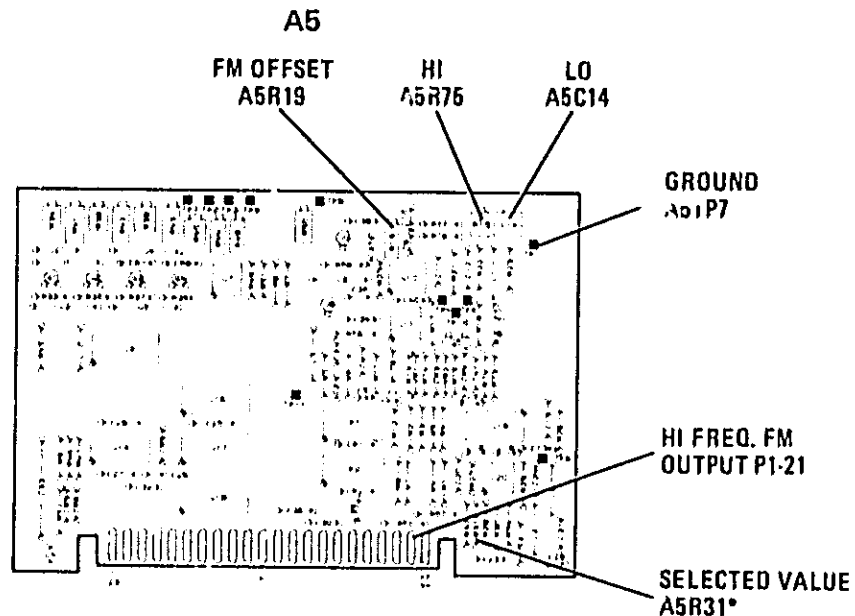

Figure 5-30. A5 FM Driver Adjustment Location
3. Connect DVM between A5 board connector pin 21 and A3TP7 (ground). (See Figure 5-30.) Adjust A5R19 "FM OFFSET" control for zero Vdc ± 1 mVdc.
8. Manually sweep function generator frequency from DC to 100 kHz. Select resistor A5R31 (Figure 5-30) so amplitude at 100 Hz and at 100 kHz are the same ±0.2 cm on CRT. Refer to Table 5-2 for the allowable range of values for A5R31.
9. Manually sweep function generator frequency from DC to 10 MHz. Adjust A5C14 "LO" and A5R75 "HI" controls several times (Figure 5-30) to obtain the most constant overall response from DC to 10 MHz.